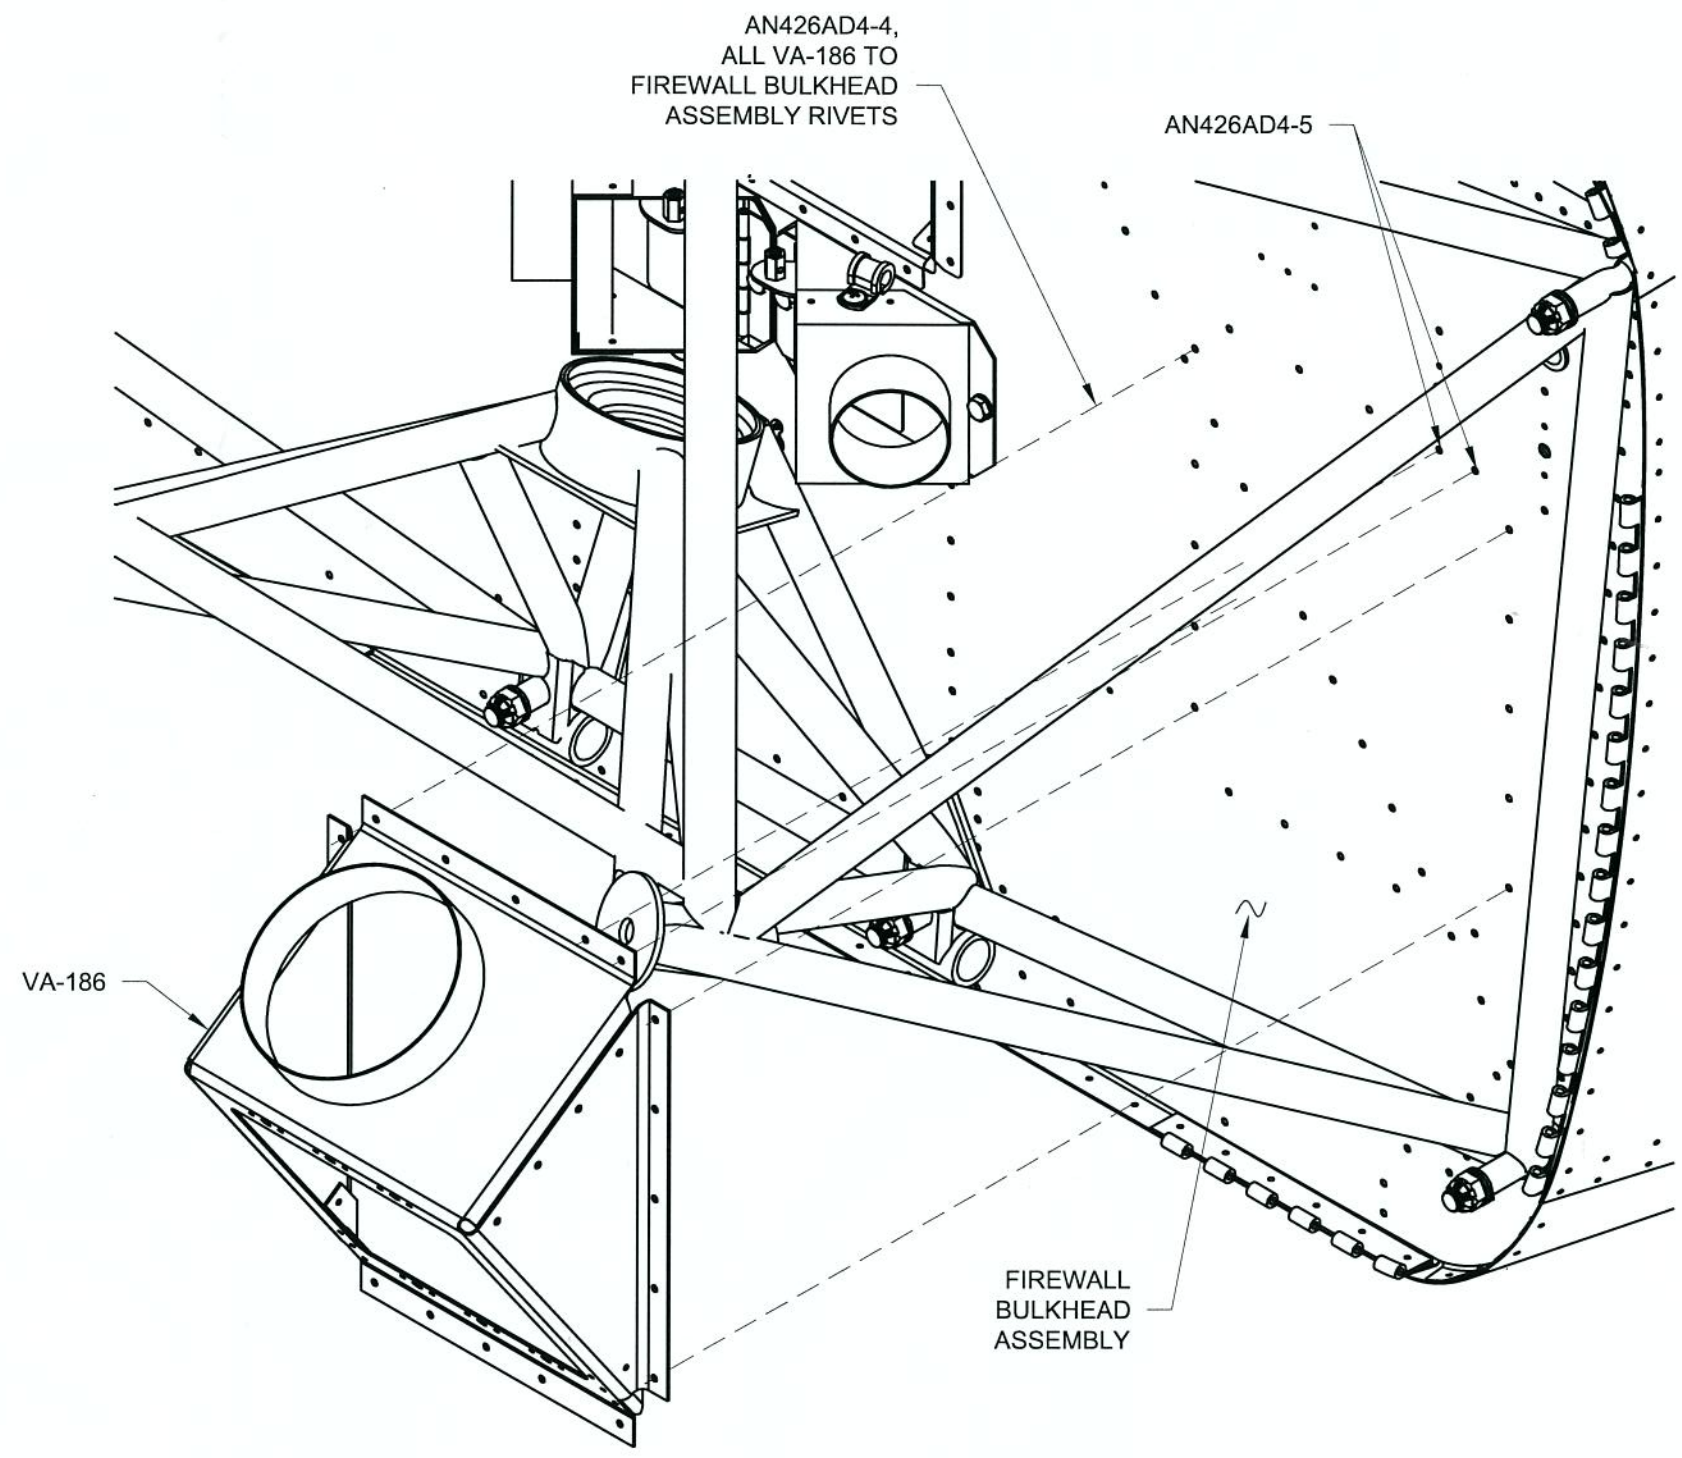

FIGURE 3: INSTALLING THE OIL COOLER BOX ASSEMBLY
Step 6: Rivet the VA-186 Oil Cooler Box Assembly to the Firewall Bulkhead Assembly using the callouts in Figure 3.